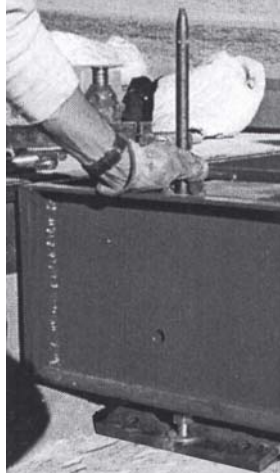

Figure 4-10. Seating Anchor Bolts on Baseplate
8. Install one washer and one nut on each anchor bolt. Place a driver pipe on top of the anchor bolt and use the long punch to seat anchor bolts against baseplate (see Figure 4-10 14).